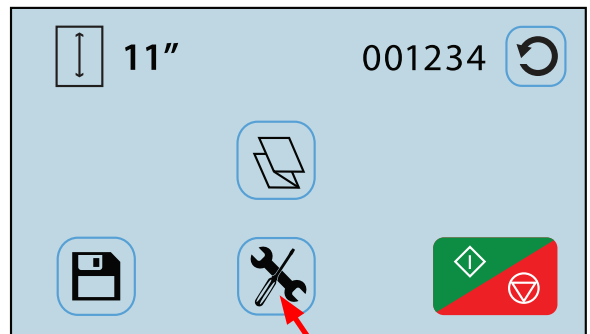

Fig. 34
1. To access the service mode start by pressing the Operator Tools icon  on the home screen (Fig. 34).